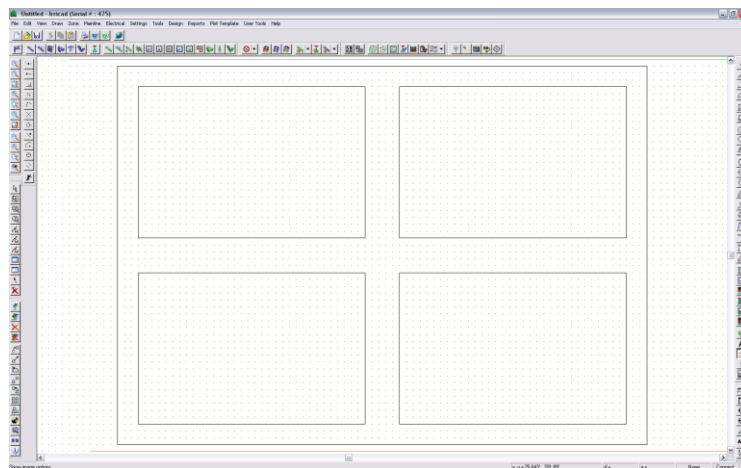

Figure 4-53
9. In this example there is a 5ft (1.5m) fall from the top to the bottom of the screen. To allow for this, select *Draw/Contour* and enter one contour line at the top of the screen. Move to the top left of the screen just above and to the left of the boundary rectangle. Click the left mouse button then drag the rubberband horizontally to the right until it is above and to the right of the boundary rectangle and click the left mouse button. Select *Right-click/Done*. In the dialog, type **33 (10)** as the contour height. Click [OK]. Now draw a contour similarly along the bottom of the screen below the boundary rectangle. Select *Right-click/Done* and type **28 (8.5)** in the dialog as the contour height. Click [OK].
10. If you can still see the green rubberband color, select *View/Redraw*. Your design should look something like Figure 4-53.